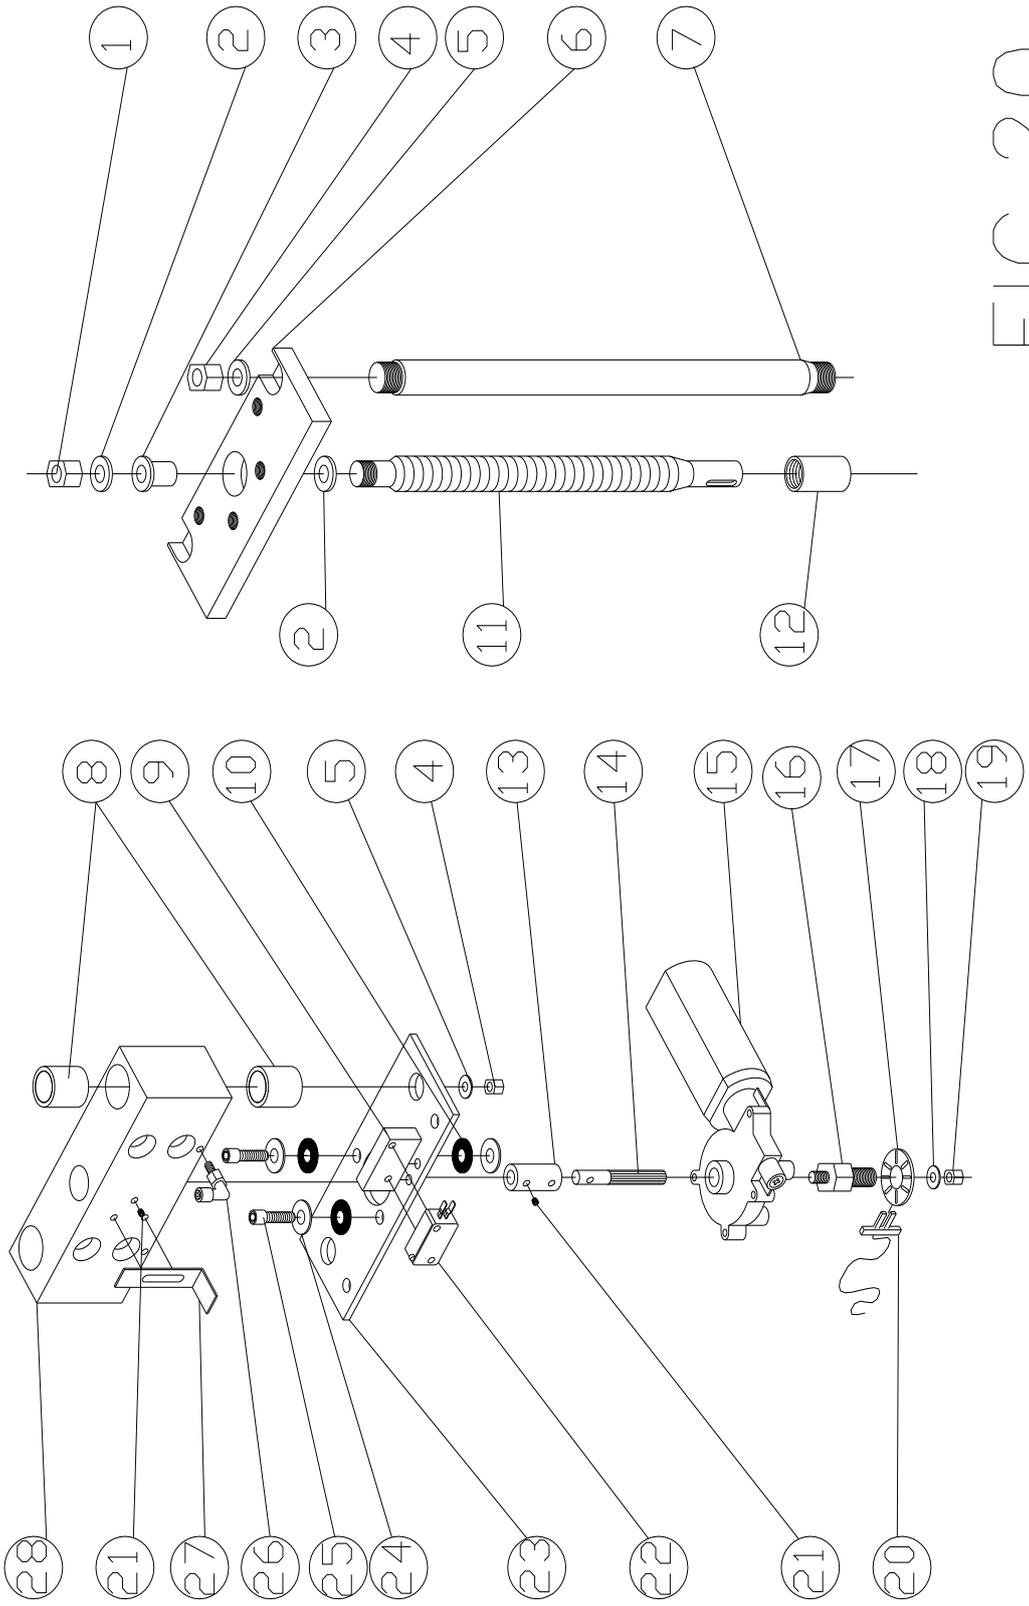

FIG. 20
7.4 – ELENCO RICAMBI (Fig.20, 21,22 23)